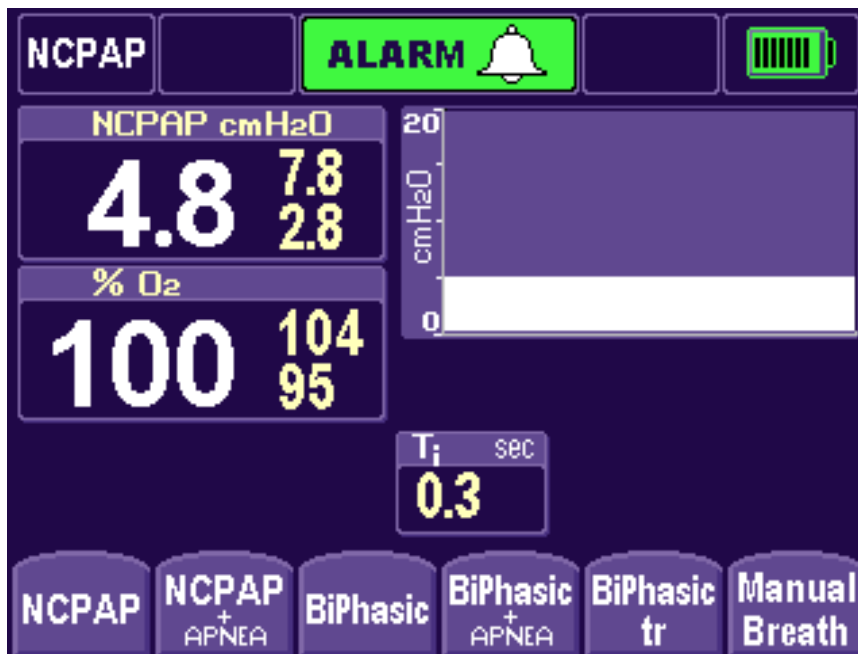

Figure 3
9. The next screen varies but select BiPhasic soft key (Figure 3).